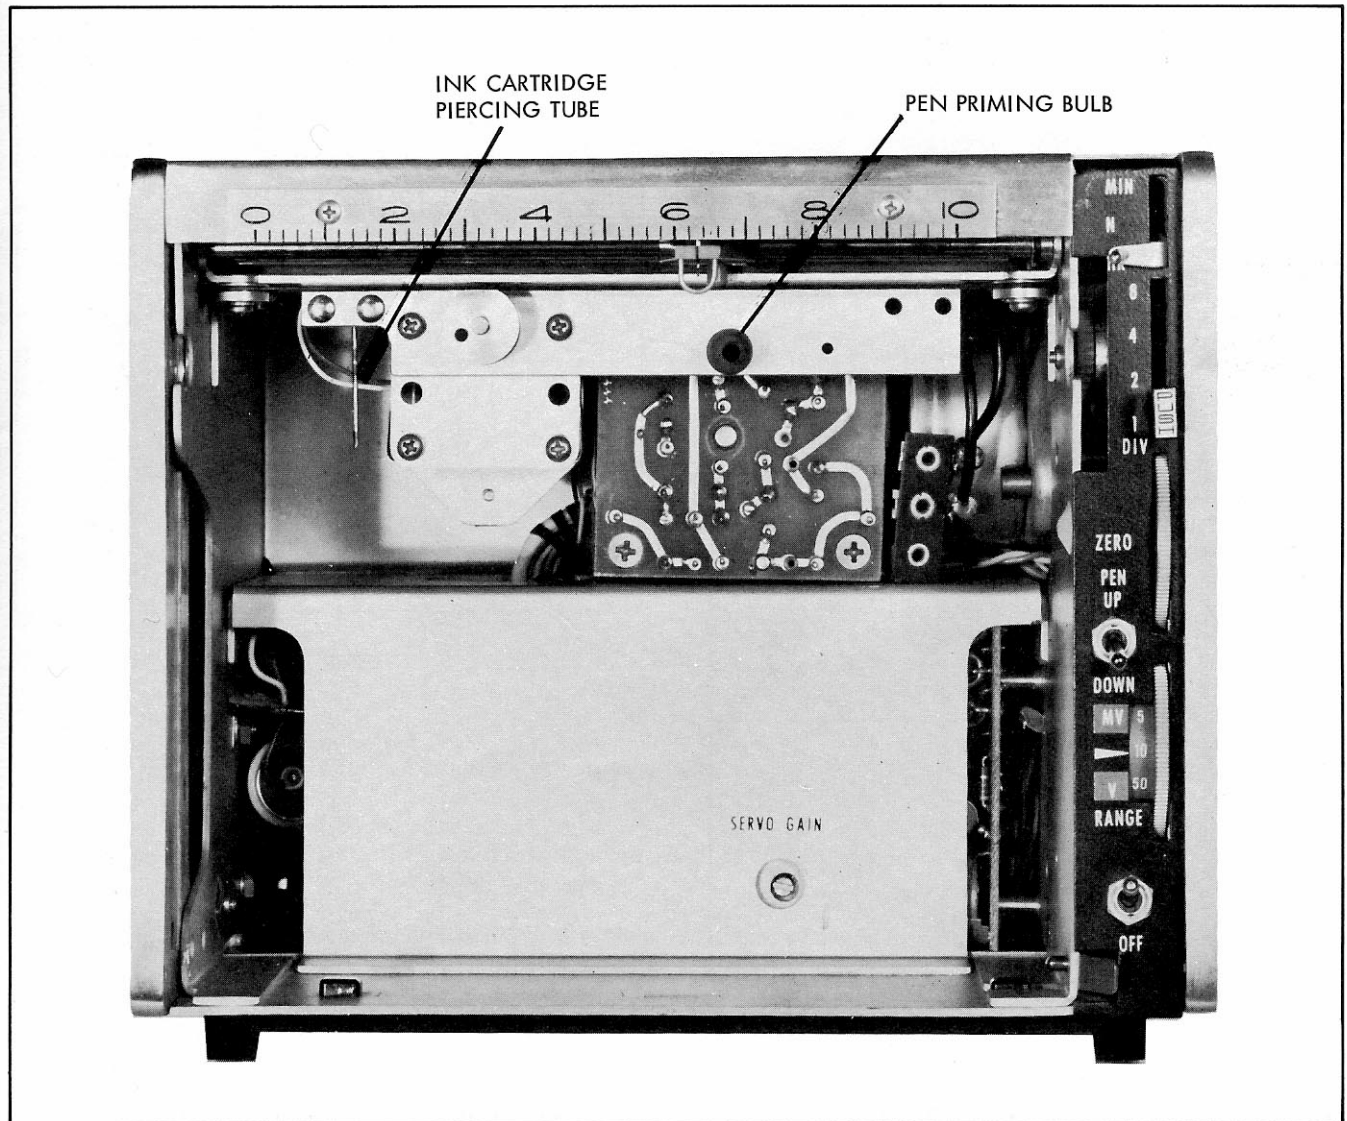

FIGURE 3-3. MODEL 680 WITH CHART MAGAZINE REMOVED
- b. Install ink cartridge. Depress the lever which is adjacent to the power switch at the bottom of the control panel, raise the chart magazine to a horizontal position and slide it from the recorder. Force the cartridge over the piercing tube of the corresponding pen and screw all the way on. The piercing tubes (up to two) are located in the same plane as the pen. See figure 3-3. Pen primers are located behind the chart magazine and just below the pen. Depressing the primer will force ink from the cartridge to the pen tip.